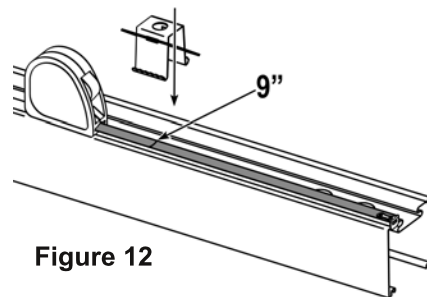

Figure 12
The first suspension point on each end of each Row (Trunks) must be positioned at 9" from the end of the Row as measured on the Trunk. See Figure 12 on Page 13. Find the location of the first suspension point for each Row on the ceiling accordingly. For example, if a Row is to be installed 36" from a reference point such as a wall, the first suspension point would be installed at 45" from the reference point. That is 36" to the end of the Row (Trunk) then 9" to the first mounting bracket on that Row for a total of 45" from the reference point.
- Adjust Mounting Brackets to exact positions for each Row. Find distance between Mounting Brackets for specific Row lengths as listed on the Baldur Suspension Spacing Schedule. The first Mounting Bracket on each end of each Row should be placed at 9" from the end of the Trunk. See Figure 12.